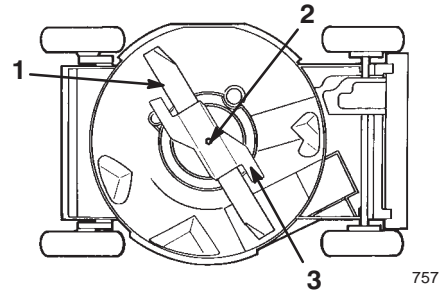

Figure 22
4. Tip the lawn mower onto its **right** side (Fig. 22).
2. Remove the blade bolt, the lock washer, the accelerator, and the blade (Fig. 22).